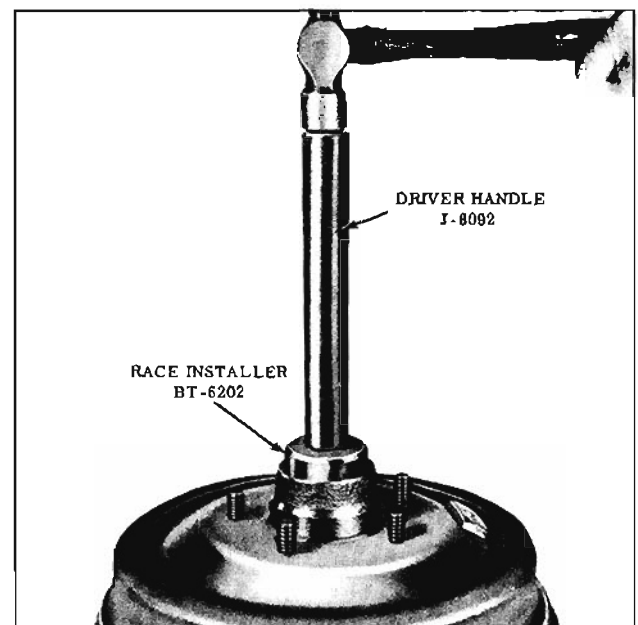

Fig. 9-4 Installing Outer Bearing Race
1. If the outer races were removed, drive or press the races into the hub as shown in Fig. 9-4 and 9-5.